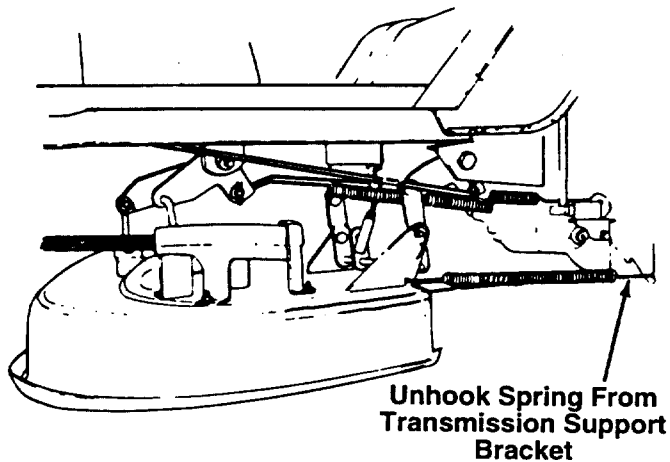

FIGURE 18.
5. Disconnect the spring from the left rear transmission support bracket. See figure 18.